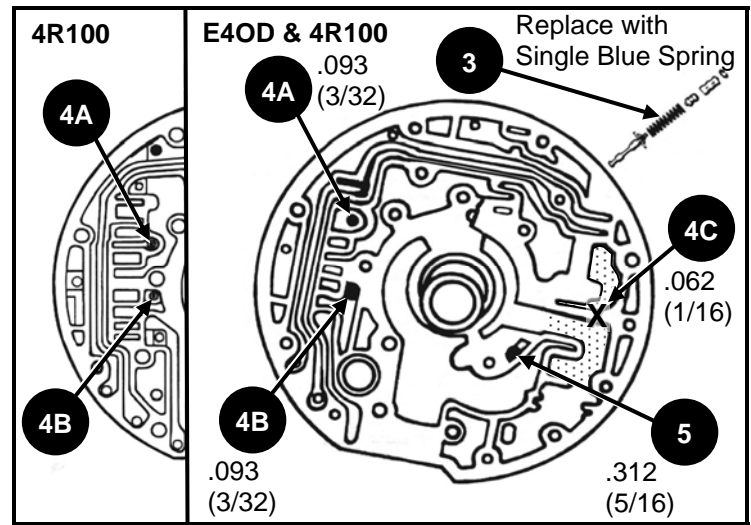

Figure 5
3. Refer to **Figure 5**. Replace the two springs on the pressure regulator valve with the blue spring supplied.